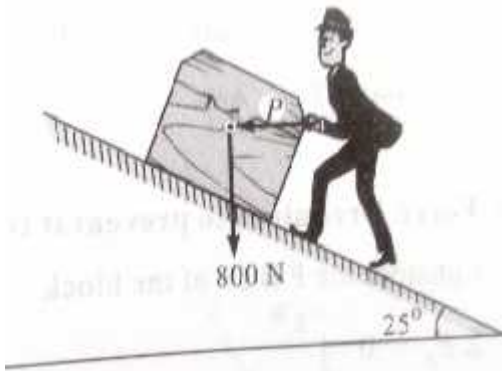

fig:1
1. A support block is acted upon by two forces as shown in fig:1, knowing that the co-efficient of friction between the block and incline are $\mu_s = 0.35$, $\mu_k = 0.25$, determine the force P required.